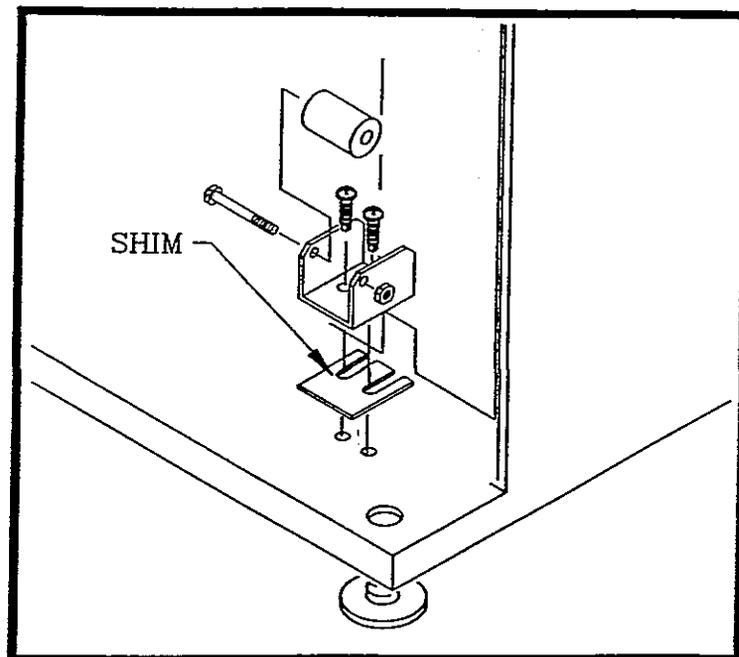

FIGURE 1
- * Check the door roller assembly (see figure 1). It may be necessary to raise or lower the bracket. By using shims (metal spacers), you can add shims to raise the door roller or remove the shims to lower it. The purpose of the door roller is to align the door lockstud to the door latch.